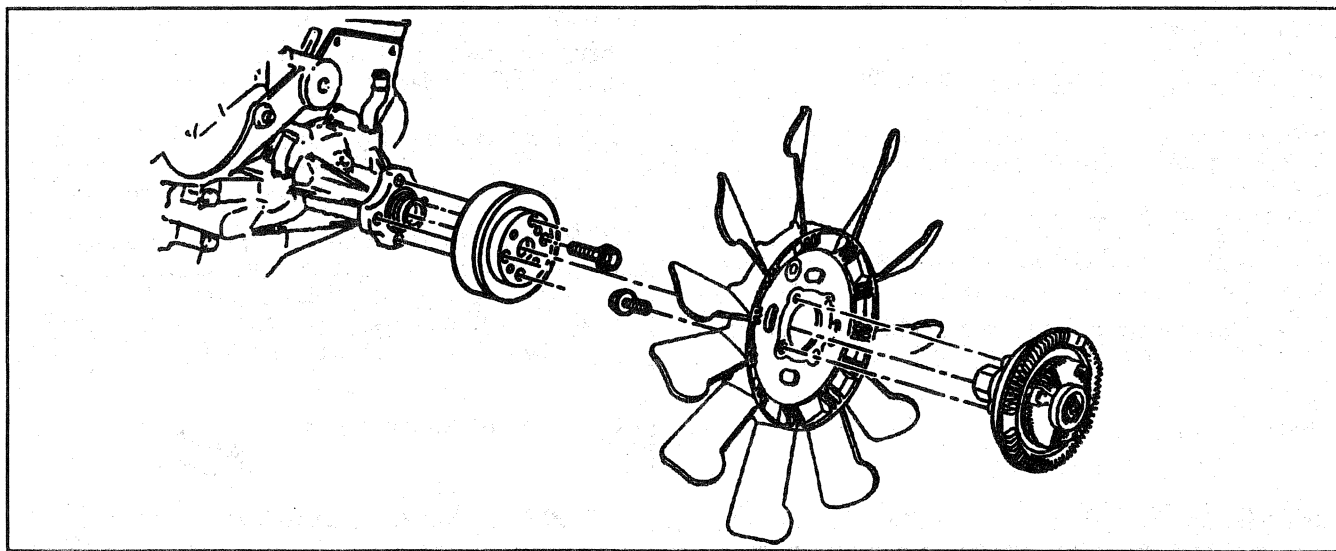

Figure 20—Radiator Fan and Fan Clutch (4.3L, 5.0L and 5.7L Engines)
**↔ Install or Connect (Figure 20)**
**↔ Remove or Disconnect (Figure 20)**